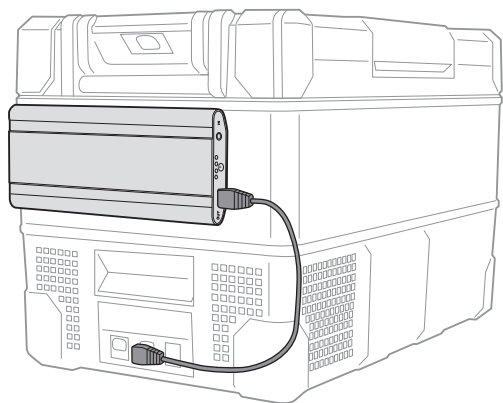

Fig. 4
- ▶ Attach the BatteryPack to a metal surface on the Truma Cooler (Fig. 4).
- ▶ Plug the connector cable (Fig. 1-6) into the connection for the Truma Cooler (Fig. 2-1) of the BatteryPack and into one of the two DC sockets of the Truma Cooler (Fig. 4).